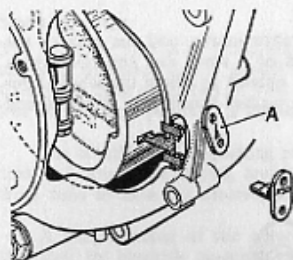

FIG. 8.
In order to assist the owner in setting the piston in the correct timing position, the flywheel is specially machined to accept a timing plug (supplied in the tool kit) which can be inserted through an aperture in the front of the crankcase (Fig. 8). First, set the right-hand piston at the top of its compression stroke (both valves closed). Remove the detachable cover (A), and insert the plug loosely. Rotate the engine backwards very slowly until the timing plug is felt to engage in the flywheel timing keyway, then add and tighten the fixing nuts.